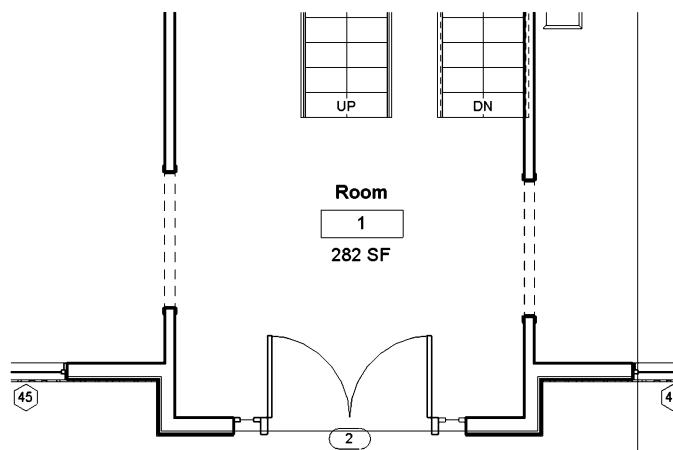

FIGURE 13-1.1 Room & Room Tag added to entry
2. Place your cursor within the *Entry* area and place a *Room* (Figure 13-1.1). Make sure “*Tag on placement*” is highlighted on the *Ribbon*.